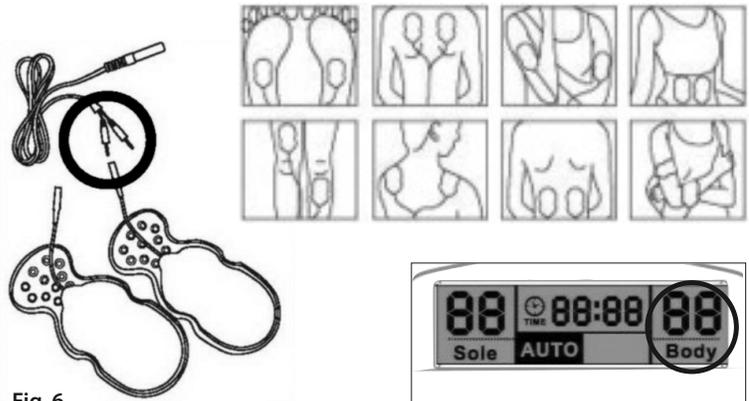

Fig. 6
2. Connect pin of the cable to the gel pad properly (see Fig.6).